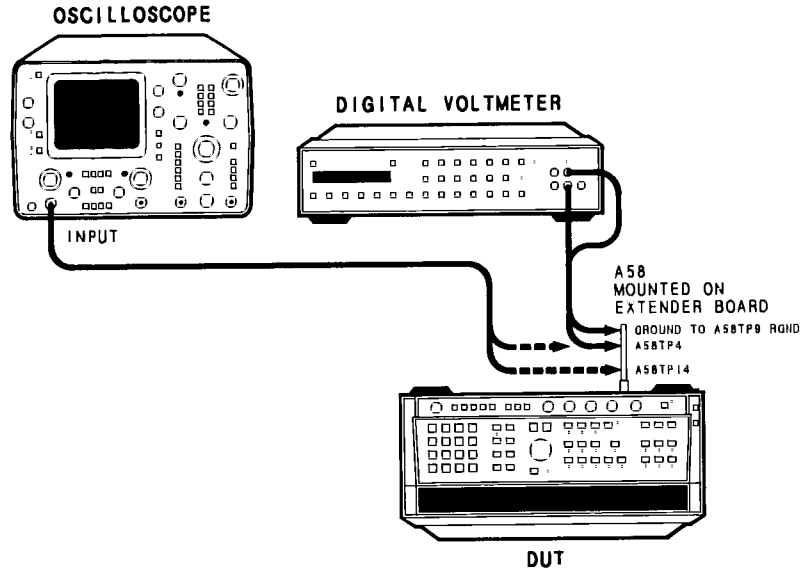

Figure 5-36. Sweep Generator Test Setup
1. Place the DUT in the test position as shown in Figure 5-36 with bottom cover removed and the A58 Sweep Generator assembly on an extender board. Connect the oscilloscope to A58TP4 (MKR RMP). Turn the DUT's LINE switch ON and allow one-half hour warm up time.